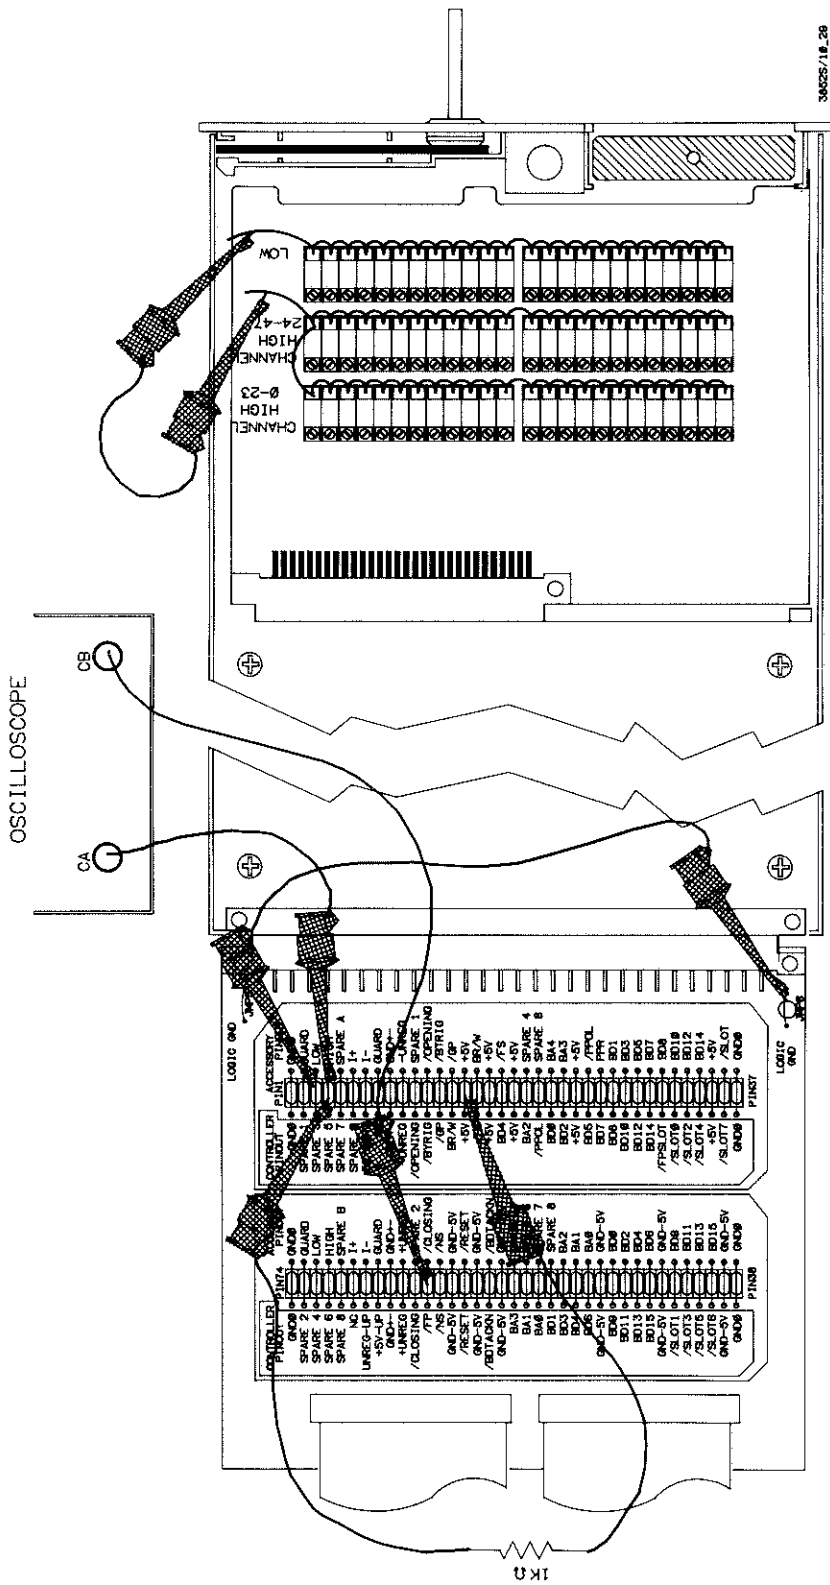

Figure 10-29 HP 44712A Closing Time Set-Up
1. Move the channel B oscilloscope probe to the CLOSING connection on the service module. The Closing Time test set-up is shown in Figure 10-29.